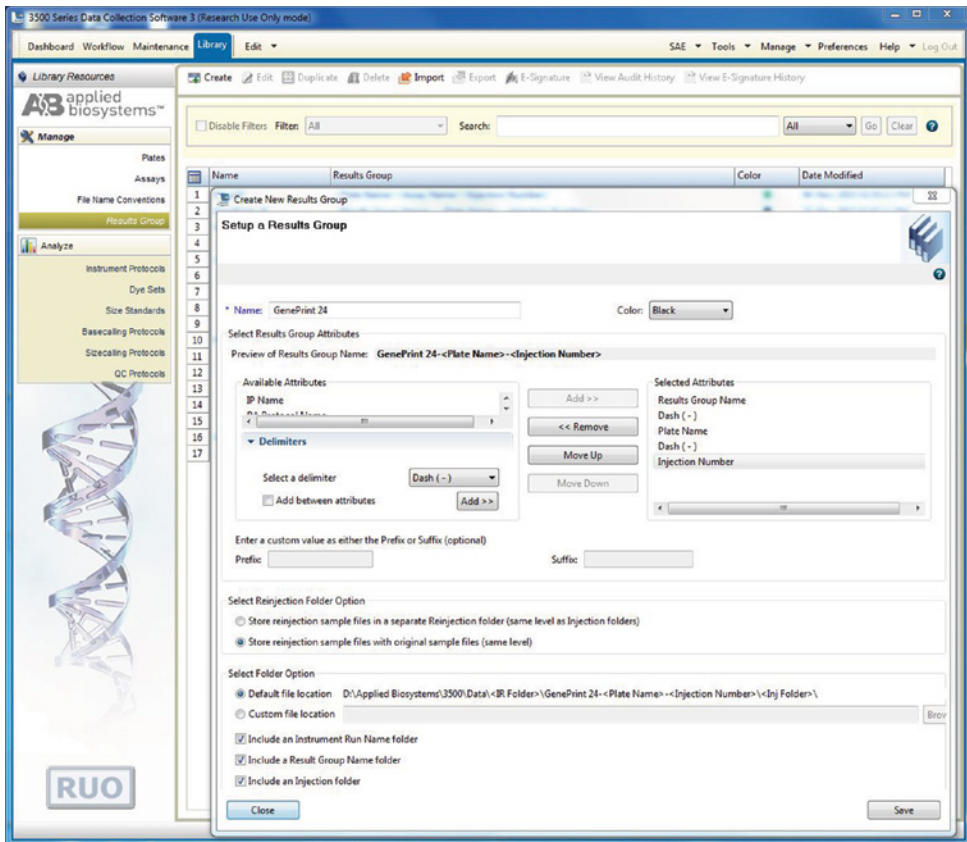

Figure 8. The ‘Setup a Results Group’ window.
7. Create a new Results Group. To create a new Results Group (Figure 8), navigate to the Library. Select **Results Group**, and then select **Create**. Alternatively, a previously created Results Group can be used.